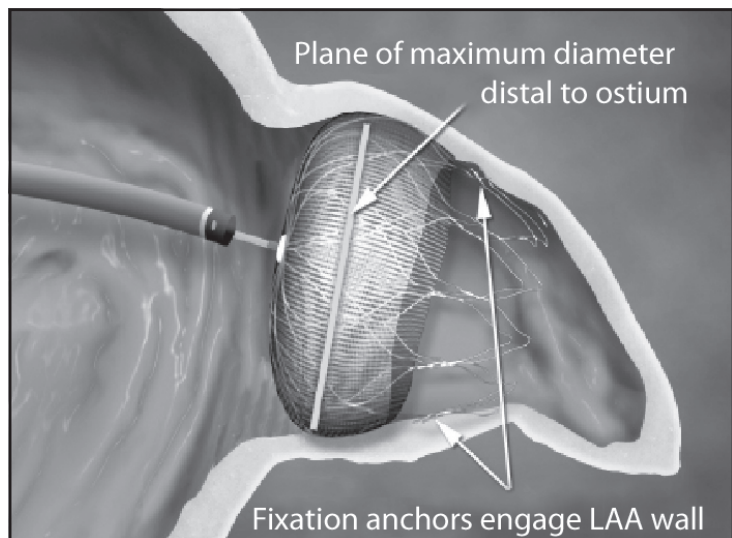

Figure 5. WATCHMAN LAA Closure Device Position and Size
- A. **Position:** Plane of maximum diameter is at or just distal to and spans entire LAA Ostium (See Figure 5).
- C. **Size (compression):** Measure plane of maximum diameter of Device (See Figure 5). Use Table 2 as a guide.